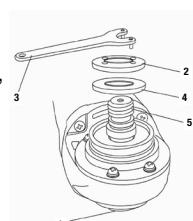

FIG. 2
- Depress the spindle lock button (1) and rotate the clamp nut (2) until the spindle locks (Fig. 2).